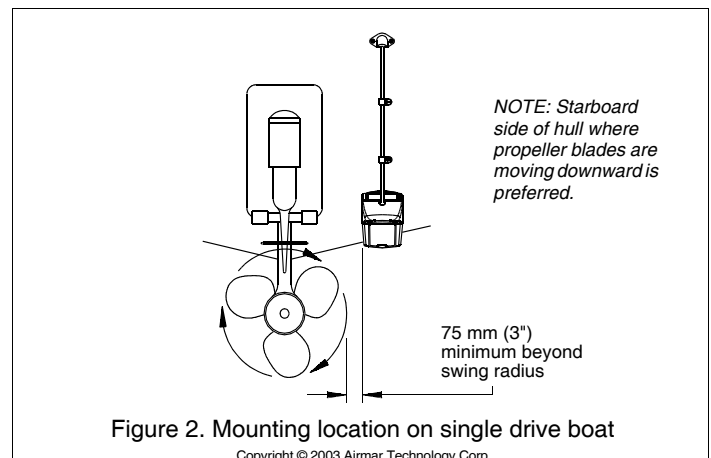

Figure 3. Template
1. Cut out the template (see Figure 3).